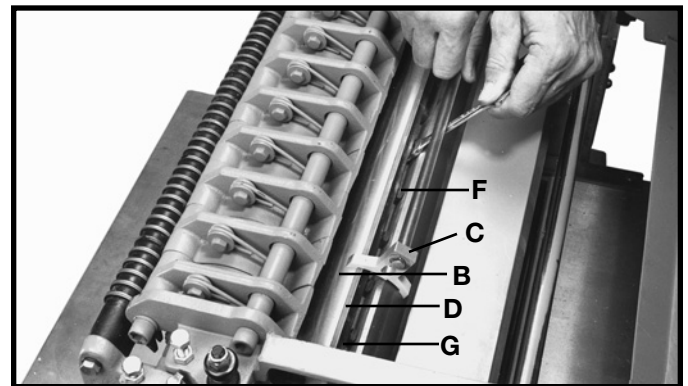
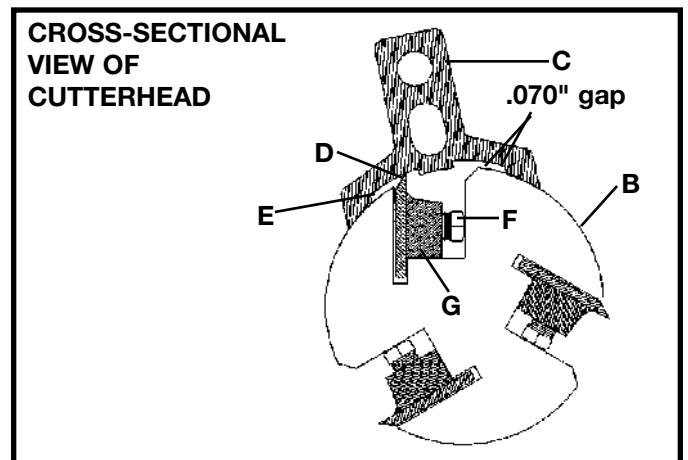

Fig. 34
Fig. 35
3. Carefully place knife setting gage (C) Figs. 34 and 35, so the gage is positioned on the radiused section of cutterhead (B). When set correctly, knife (D) Figs. 34 and 35, should just contact the bottom of inset section (E) Fig. 35 of knife setting gage (C) which is set at .070". Check the remaining knives in the same manner.
4. If an adjustment to one or all three knives is necessary, slightly loosen the ten locking screws, one of which is shown at (F) Fig 34 and Fig. 35, just enough to relieve stress in cutterhead (B) and not disturb the knife setting.
5. With knife setting gage (C) Figs. 34 and 35 still in place on the cutterhead, continue to adjust the knife that must be reset by turning the ten knife locking screws **CLOCKWISE** until knife locking bar (G) becomes loose. Lifter springs (not shown) located under the knife will automatically raise the knife until it comes in contact with the gage (C). Then snug up the knife locking bar (G) Fig. 34 and Fig. 35, by turning the ten screws (F) **COUNTERCLOCKWISE**. **IMPORTANT: AT THIS TIME, ONLY TIGHTEN THE KNIFE LOCKING BAR (G) JUST ENOUGH TO HOLD THE KNIFE (D) IN POSITION INSIDE THE CUTTERHEAD SLOT.**
7. After all the knives are positioned in the cutterhead with the knife locking screws snug, turn each of the ten locking screws (F) Fig. 34, **COUNTERCLOCKWISE UNTIL THE KNIVES ARE SECURE IN THE CUTTERHEAD.**
**NOTE:** When tightening the knife locking screws (F), tighten the end screws first, then proceed inward toward the center of the cutterhead.
9. Carefully place knife setting gage (C) Fig. 34, so it is positioned on the radiused section of the cutterhead (B) Fig. 35.
10. Loosen knife locking bar (G) Figs. 34 and 35, by turning ten knife locking screws, one of which is shown at (F) **CLOCKWISE** and carefully remove locking bar (G), knife (D), and springs (not shown) which are located under the knife, from the cutterhead. Remove the remaining knives in the same manner.
12. Carefully replace the springs (not shown), knives (D) Fig. 35, and locking bars (G) into the three slots in the cutterhead (B). **IMPORTANT: WHEN REPLACING LOCKING BARS (G) FIG. 35, AGAINST KNIVES (D) AS SHOWN IN THE CROSS SECTIONAL ILLUSTRATION, MAKE CERTAIN LOCKING BARS (G) ARE INSTALLED AS SHOWN, WITH LOCKING SCREWS (F) HOLDING KNIVES (D) PROPERLY INSIDE THE CUTTERHEAD SLOTS. TURN ALL KNIFE LOCKING SCREWS, ONE OF WHICH IS SHOWN AT (F), COUNTERCLOCK-WISE, JUST ENOUGH TO HOLD THE KNIVES IN THE CUTTERHEAD.**